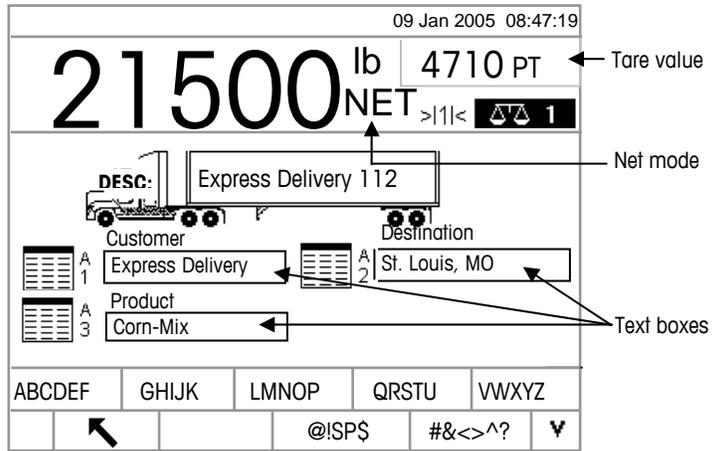

Figure 2-13: A1-A3 Tables Data Entry Screen
2. Use the alpha keys and the numeric keypad to enter the Short A/N (alpha/numeric) ID of the desired database information in the text boxes that correspond to the A1, A2, A3, and A4 (if enabled) tables (see Figure 2-13).